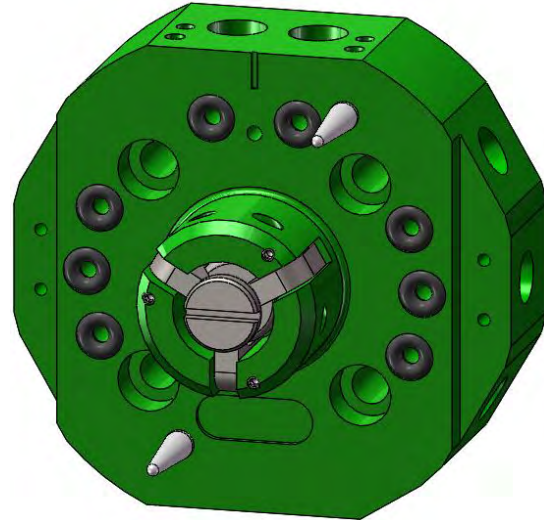

Figure 6.1-2. Robot Adaptor Uncoupled (Cams Retracted)
3. Supply control power to the solenoid valve and supply the signal from the controller/PLC to move the valve to the uncoupled (solenoid energized) position. The cams should retract to the uncoupled position (Figure 6.1-2) and the input from the uncoupled sensor (optional) should be received by the robot controller/PLC.